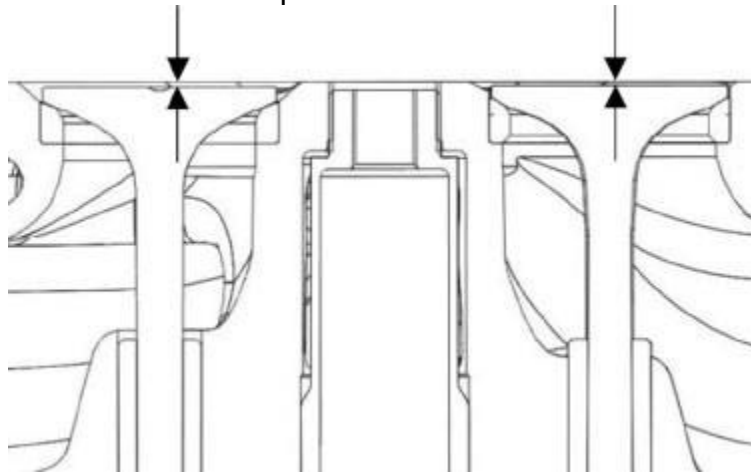

Figure 62. Valve Recession Check
5. Insert the valves into their original locations and press them down until they are fully seated. Use a depth micrometer (Figure 62) to measure the difference between the cylinder head gasket surface and the combustion surface of each exhaust and intake valve. See *Cylinder Head specification* chart for the service limit.